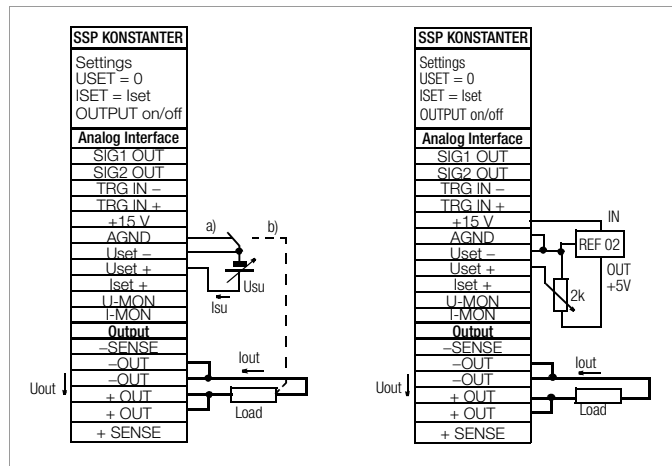

Figure 5.4 Wiring for Controlling Output Voltage with External Voltage / External Potentiometer
- If the **reference point** of control voltage **Usu** is connected to the negative output pole at the load side, the inverting input must be connected to this point (**connection b** in Figure 5.4).
- If **control voltage** is isolated from the **output**, connect **Uset-** to **AGND** (**connection a** in Figure 5.4).
- If **remote adjustment of output voltage** is to be accomplished by means of a **potentiometer**, wiring can be laid out as shown in Figure 5.4.